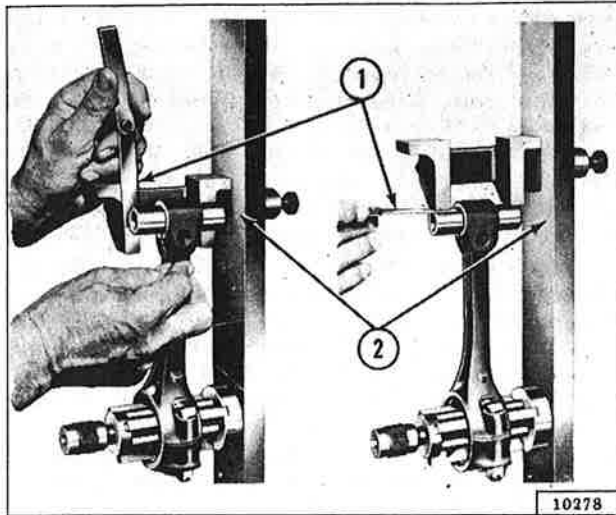

FIG. 78—CHECKING CONNECTING ROD ALIGNMENT
b. Check and if necessary correct connecting rod alignment using a connecting rod aligning fixture, such as the one shown in Fig. 78, in accordance with the instructions furnished with the fixture.